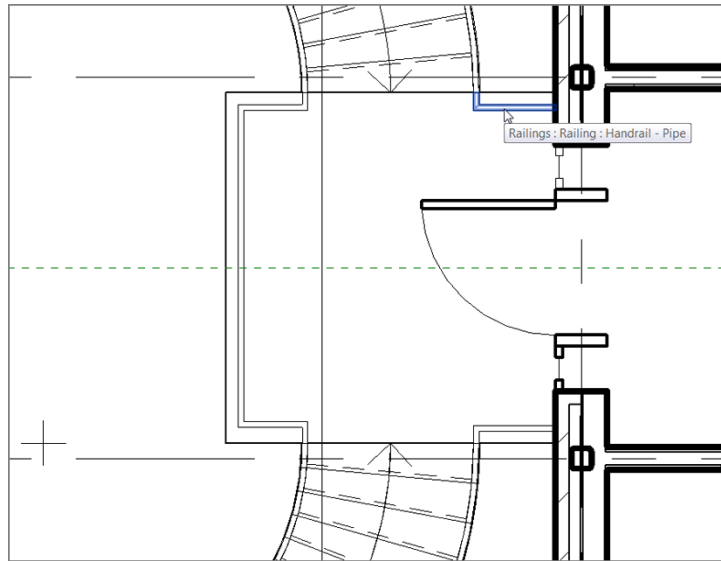

FIGURE 10.54: The railing on the landing
10. You may have to flip the railing by selecting it and then clicking the Flip arrow. Your railing should look like Figure 10.54.